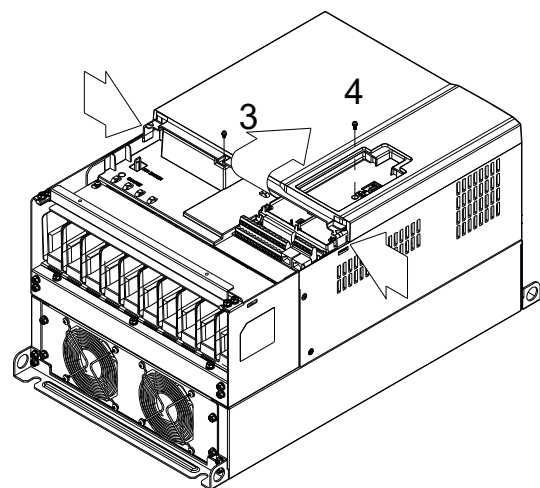

Figure 2
2. (Figure 2) Loosen screw 3 & 4, press the tab on the right and the left to remove the cover.